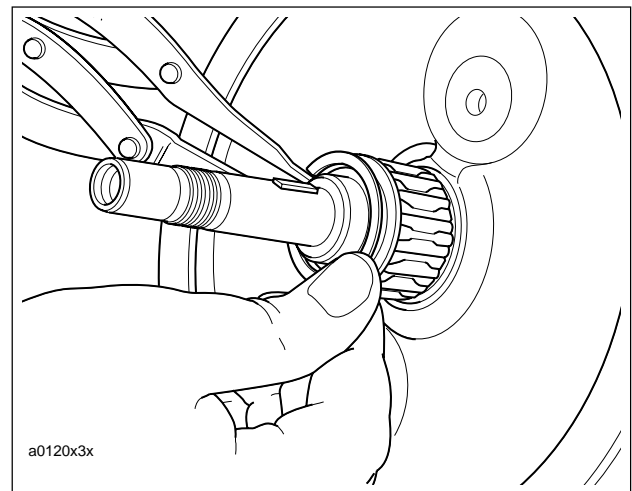

Figure 3-134. Pinion Shaft Bearing
12. See Figure 3-134. Install pinion shaft bearing.